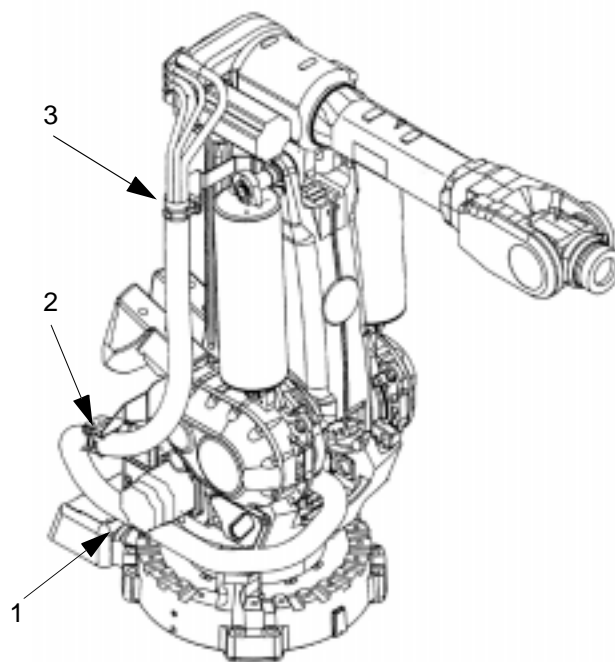

Figure 18 Location of snap attachments
7. Dismount the snap attachments, see Figure 18, Location of snap attachments.